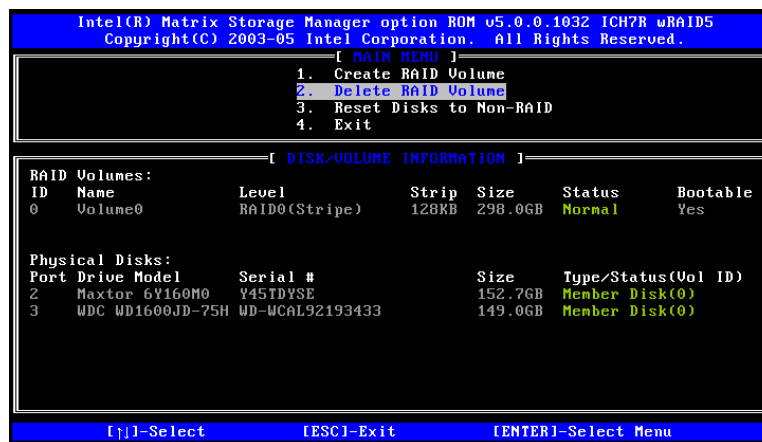

Figure E-8: Delete RAID Volume Menu
Step 1: Select “Delete RAID Volume.” Use the arrow keys to highlight **Delete RAID Volume** and press **ENTER**. See Figure E-8.